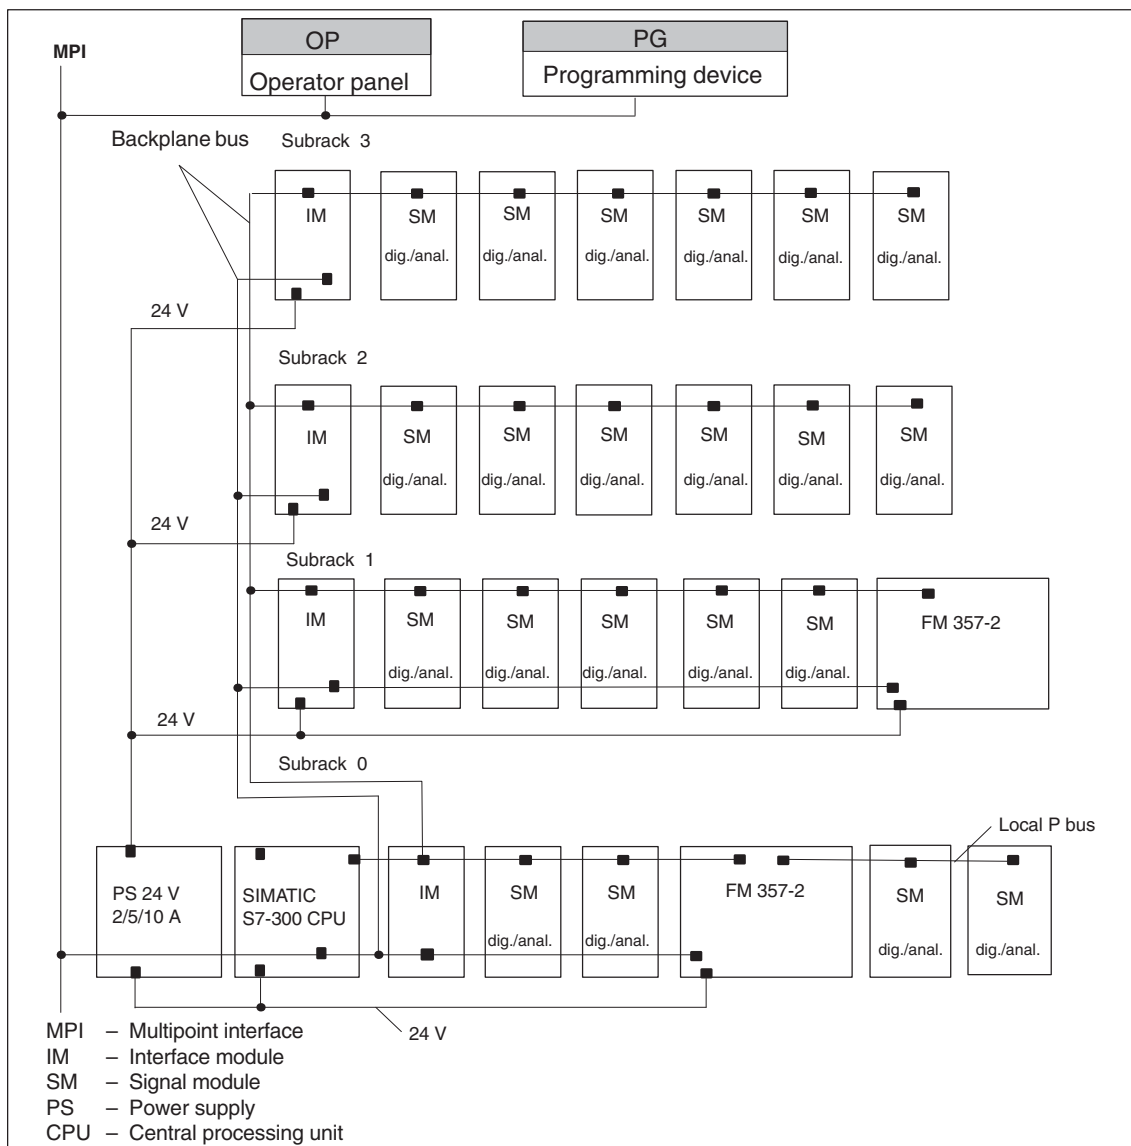

Fig. 1-1 Centralized multi-tier configuration of a SIMATIC S7-300 with FM 357-2 (example)
A SIMATIC S7-300 CPU can control up to four tiers (subracks) with as many as eight bus stations each (see Figure 1-1).
Interface module (IM)	... connects the individual tiers of an S7-300 with one another (applies to multi-tier configuration; see Figure 1-1).